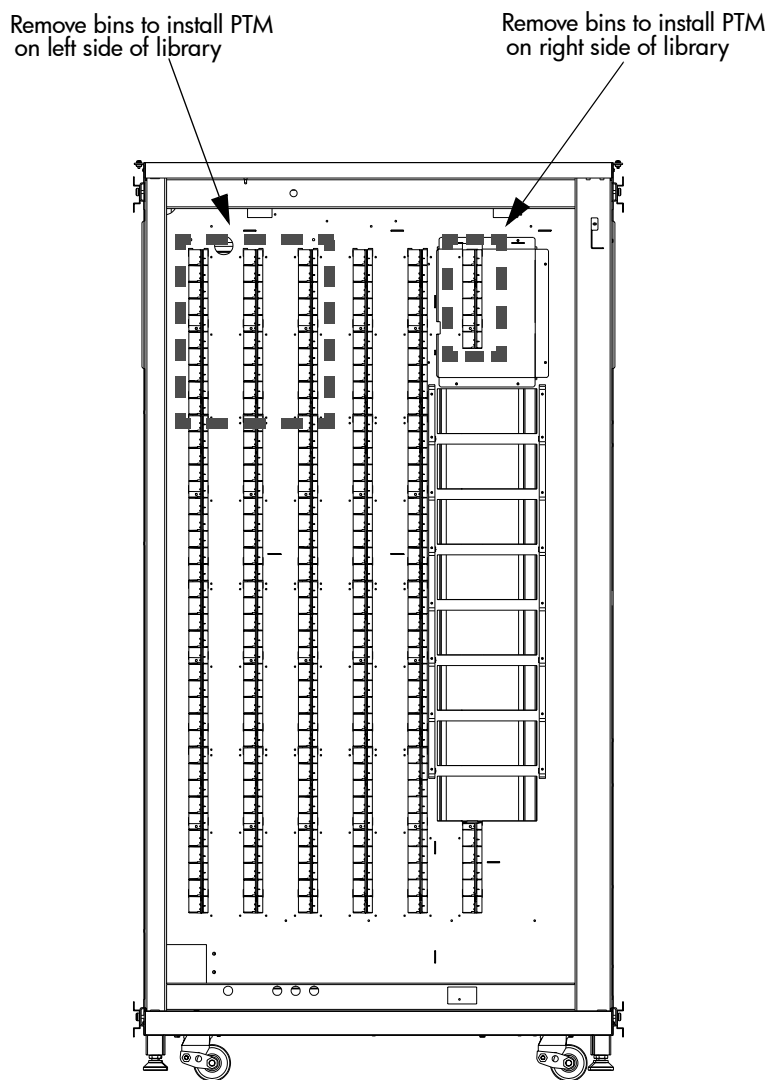

Figure 11: ESL9322 bin removal locations
<p>ESL9322 library with PTM installed on left side of library:</p> <ul style="list-style-type: none"> ■ Remove the three cartridge bin shelf modules from the interior wall of the library as shown. (Also see Figure 11 on page 34.) ■ When installing the PTM, you may need to temporarily remove two more bins to allow the PTM to be positioned.
<p>ESL9322 library with PTM installed on right side of library:</p> <ul style="list-style-type: none"> ■ Remove the single cartridge tape cartridge bin from the interior wall of the library as shown. (Also see Figure 11 on page 34.) ■ When installing the PTM, you may need to temporarily remove two more bins to allow the PTM to be positioned.
- For PTM assemblies installed on the left side of an ESL9322 library, see Figure 11 on page 34.